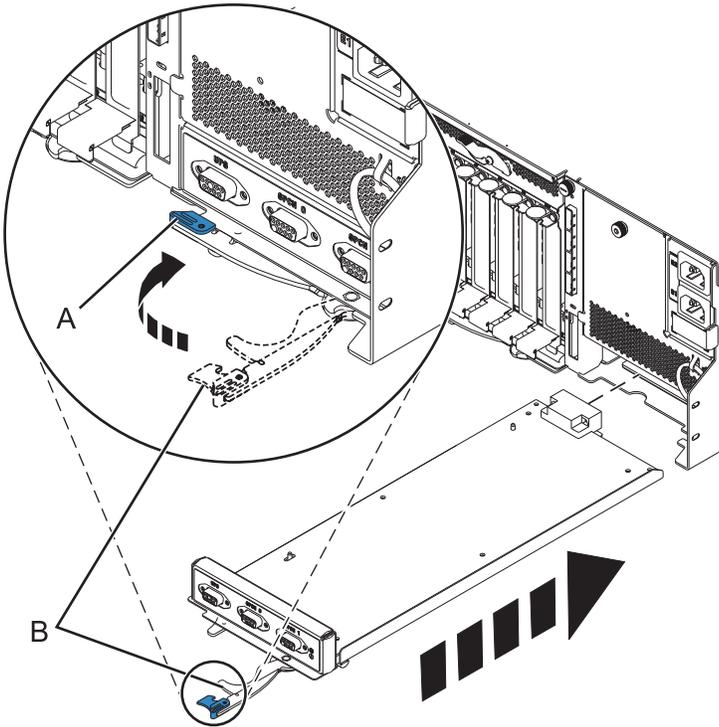

Figure 87. Replacing the enclosure management controller
- Carefully slide the enclosure management controller into the system and close the latch (A) as shown in Figure 87.